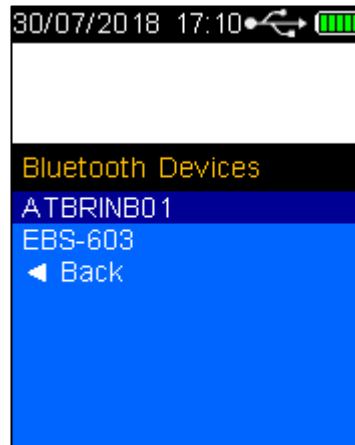

Figure 47 – Bluetooth Devices
- Select the Bluetooth device which HH4 require to be paired (Refer to Figure 47).